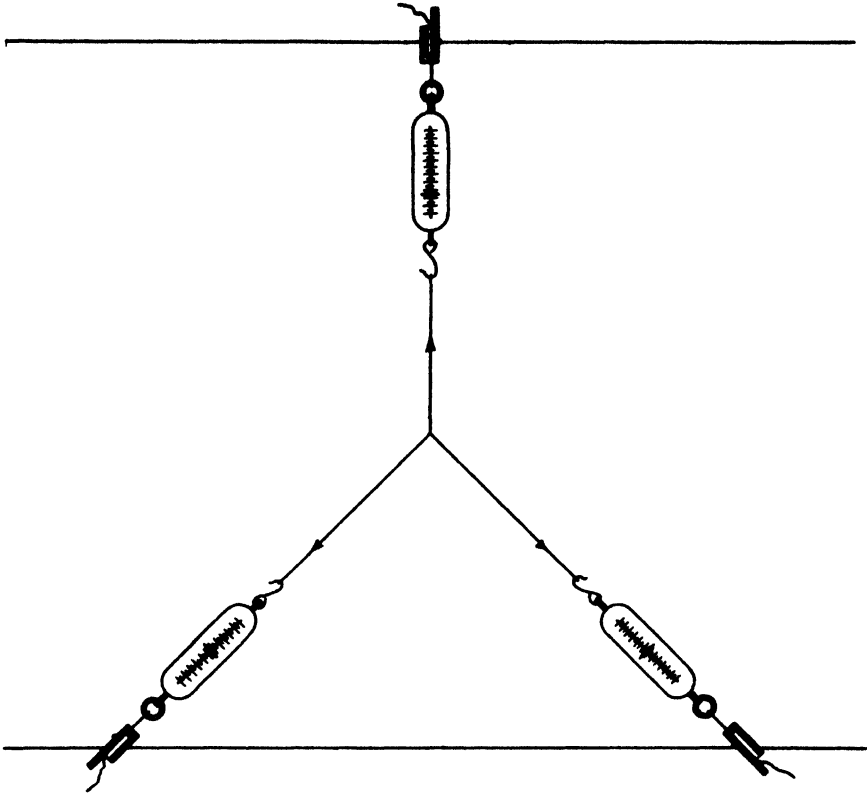

FIG. 208. COMPOSITION OF FORCES.
a) Fasten two spring balances to one side of a table and one balance to the opposite side by means of string clamps. Fasten a strong string to the balances as shown in Fig. 208, exerting enough force on the string to cause the balances to show a large reading. (This will give greater accuracy). Lay a piece of blank paper beneath the junction of the three strings, then place a wooden block along side each string and make a